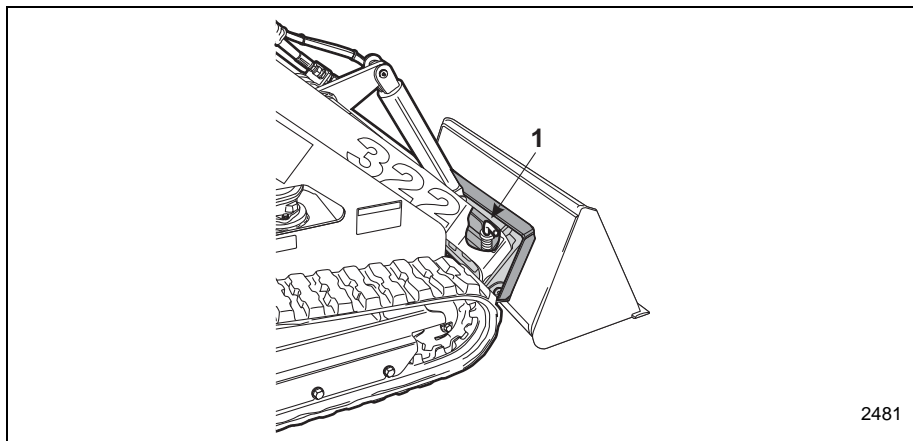
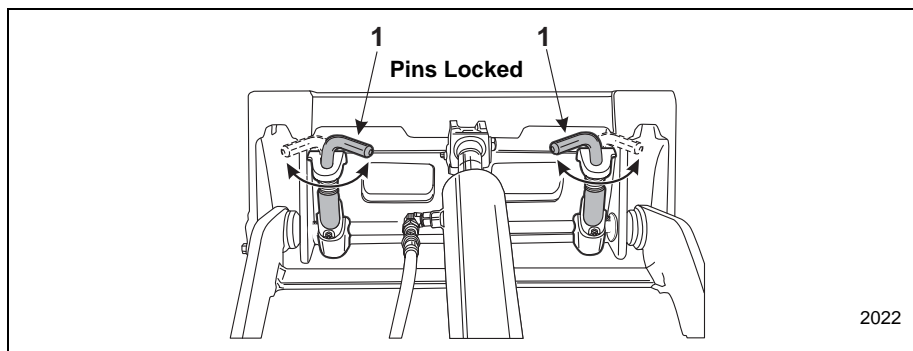

Figure 3-28 Attachment Installed
Figure 3-29 Attachment Locks in Locked Position
- When the machines mounting plates top edge is seated in the attachment mounting plate, curl the machines mounting plate backwards slightly to allow the lower edge of the machines mounting plate to slide into position. See **Figure 3-28**.
- Rotate the attachment lock pins (Item 1, **Figure 3-28** and Item 1, **Figure 3-29**) into the locked position, securing the attachment to the machine.